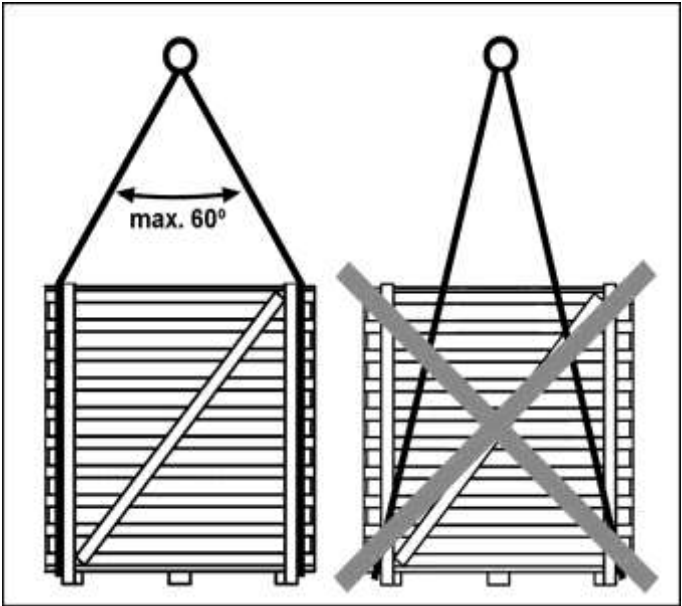

Fig. 2.2
**THE POSITIONING OF THE SLINGS MUST BE DONE AS SHOWN IN FIG. 2.2. OTHERWISE THE CRATING AND THE WASHER COULD BE DAMAGED.**